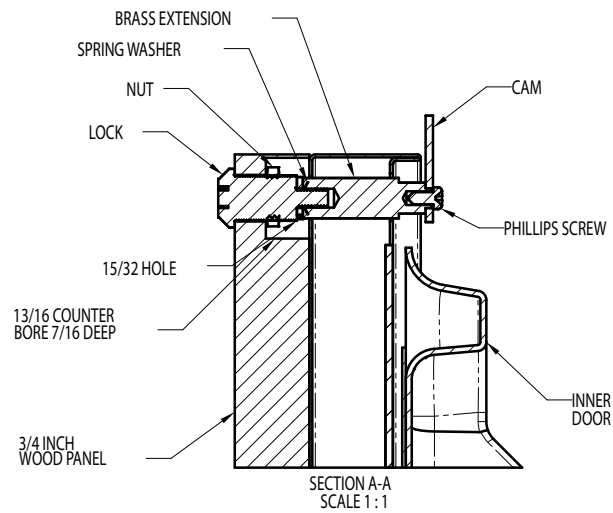

Figure 9
Remove the hinge adapter bushings from the top and bottom door hinge adapters. (See Figure 9).Using the holes in the hinge adapters drill 5/16" (8mm) diameter clearance holes into the overlay panels 3/4" (20mm) deep. These will be clearance holes for the top and bottom hinge pins.
Locate and mark with a pencil the location of the lock hole on the overlay panel, this is the hole in the top corner of the handle side of the door. Remove the clamp and remove the overlay panel from the door. On the backside of the panel where you marked the lock location drill a 13/16" (20.5mm) diameter counterbore 7/16" (11.0mm) deep into the overlay panel. Drill a 15/32" (12.0mm) diameter hole through the overlay panel centered on the counterbore being careful not to splinter the wood on the face side of the panel. (See Figure 9).
Two (2) lock extensions are supplied with the lock. Use the longer extension for a 3/4" thick overlay panel and the shorter one for a 5/8" thick panel. Assemble the lock extension, cam stop washer, spring washer, and set screw to the lock as shown in Figure 9 and 10.